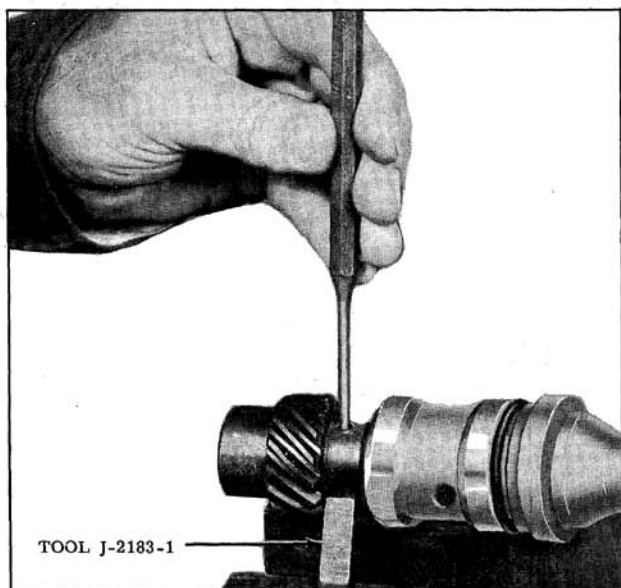

Fig. 13-70 Removing Roll Pin
2. Drive out the roll pin. (Fig. 13-70)